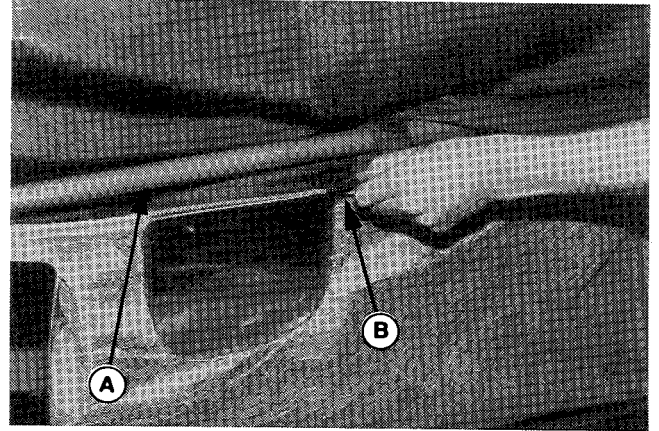

Figure 14.
- h. Inside the cover at the front, there is a long tab with an eyelet on the end. Pull this tab over the top of the support tube (A, figure 14) and back under the support tube before threading it through the slot in the cover. This locking tab (B) secures the cover to the support tube when the cover assembly is locked into the open position for dumping.